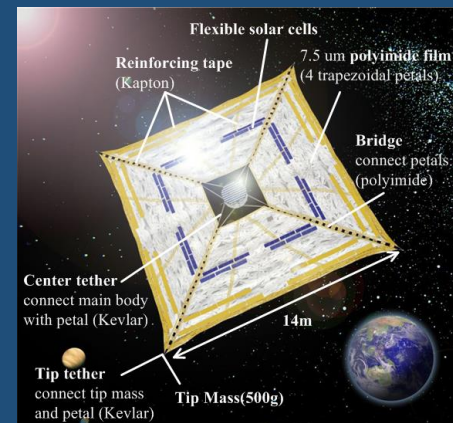

Fig.1 IKAROS
- Small solar power sail demonstrator “IKAROS” (Fig. 1) was launched by JAXA in 2010. In order to reliably deploy the structure in which membrane is attached to the deployment support structure like “IKAROS “ in orbit, behavior estimation technology is essential. But **ground experiments are difficult** as the technology. **So it is essential to estimate the behavior of these structures by numerical analysis.**